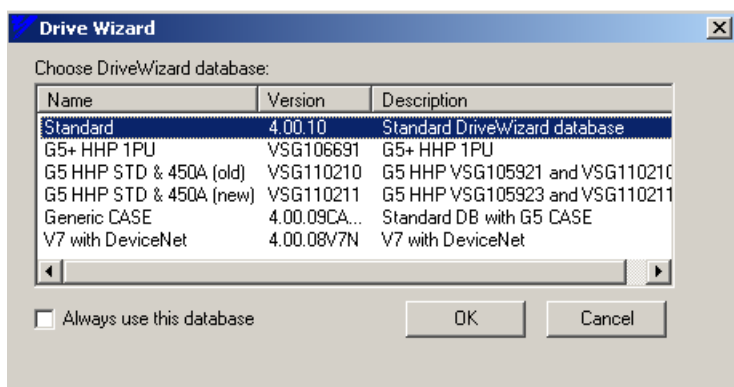

Figure 4.26: Database Select Window
3. The window in Figure 4.26 appears